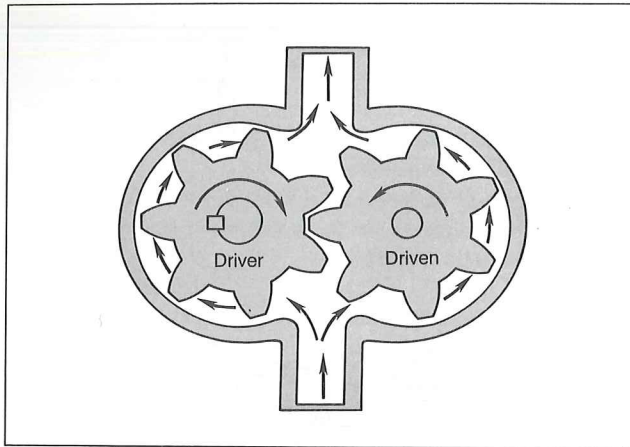

Fig. 9-3 — In gear pumps, the gears rotate within the housing and sweep fluid from the inlet to the outlet.
**Gear-on-gear pumps.** These pumps, Fig. 9-3, consist of two gears, usually of equal size, that mesh with each other inside a housing. The driving gear, connected to the drive shaft, drives the second gear. As the gears rotate within the housing, fluid is swept from the inlet to the outlet. Both spur and helical gears are used, but spur gears are the most common. As a spur gear rotates, segments of fluid are released between the